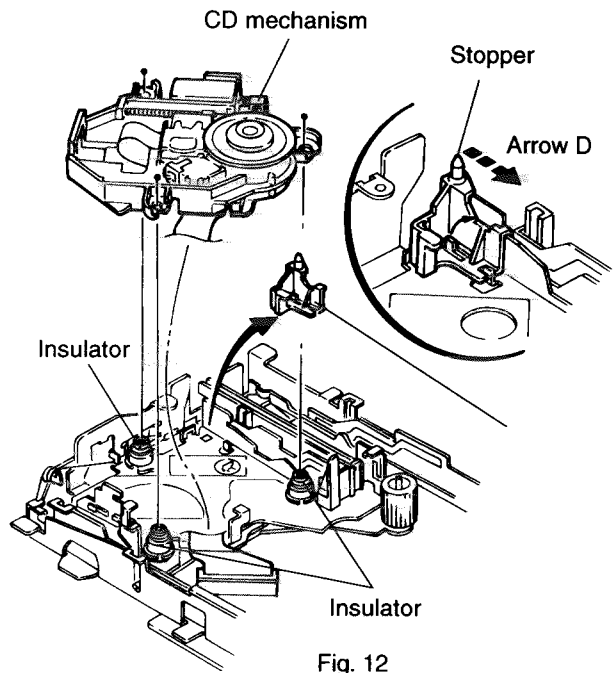

Fig. 12
5. Slide the slide cam (L) to the position A.
8. Take out the stopper retaining the CD mechanism while moving the moving the center pawl in the arrow direction [D] as shown in Fig. 12.